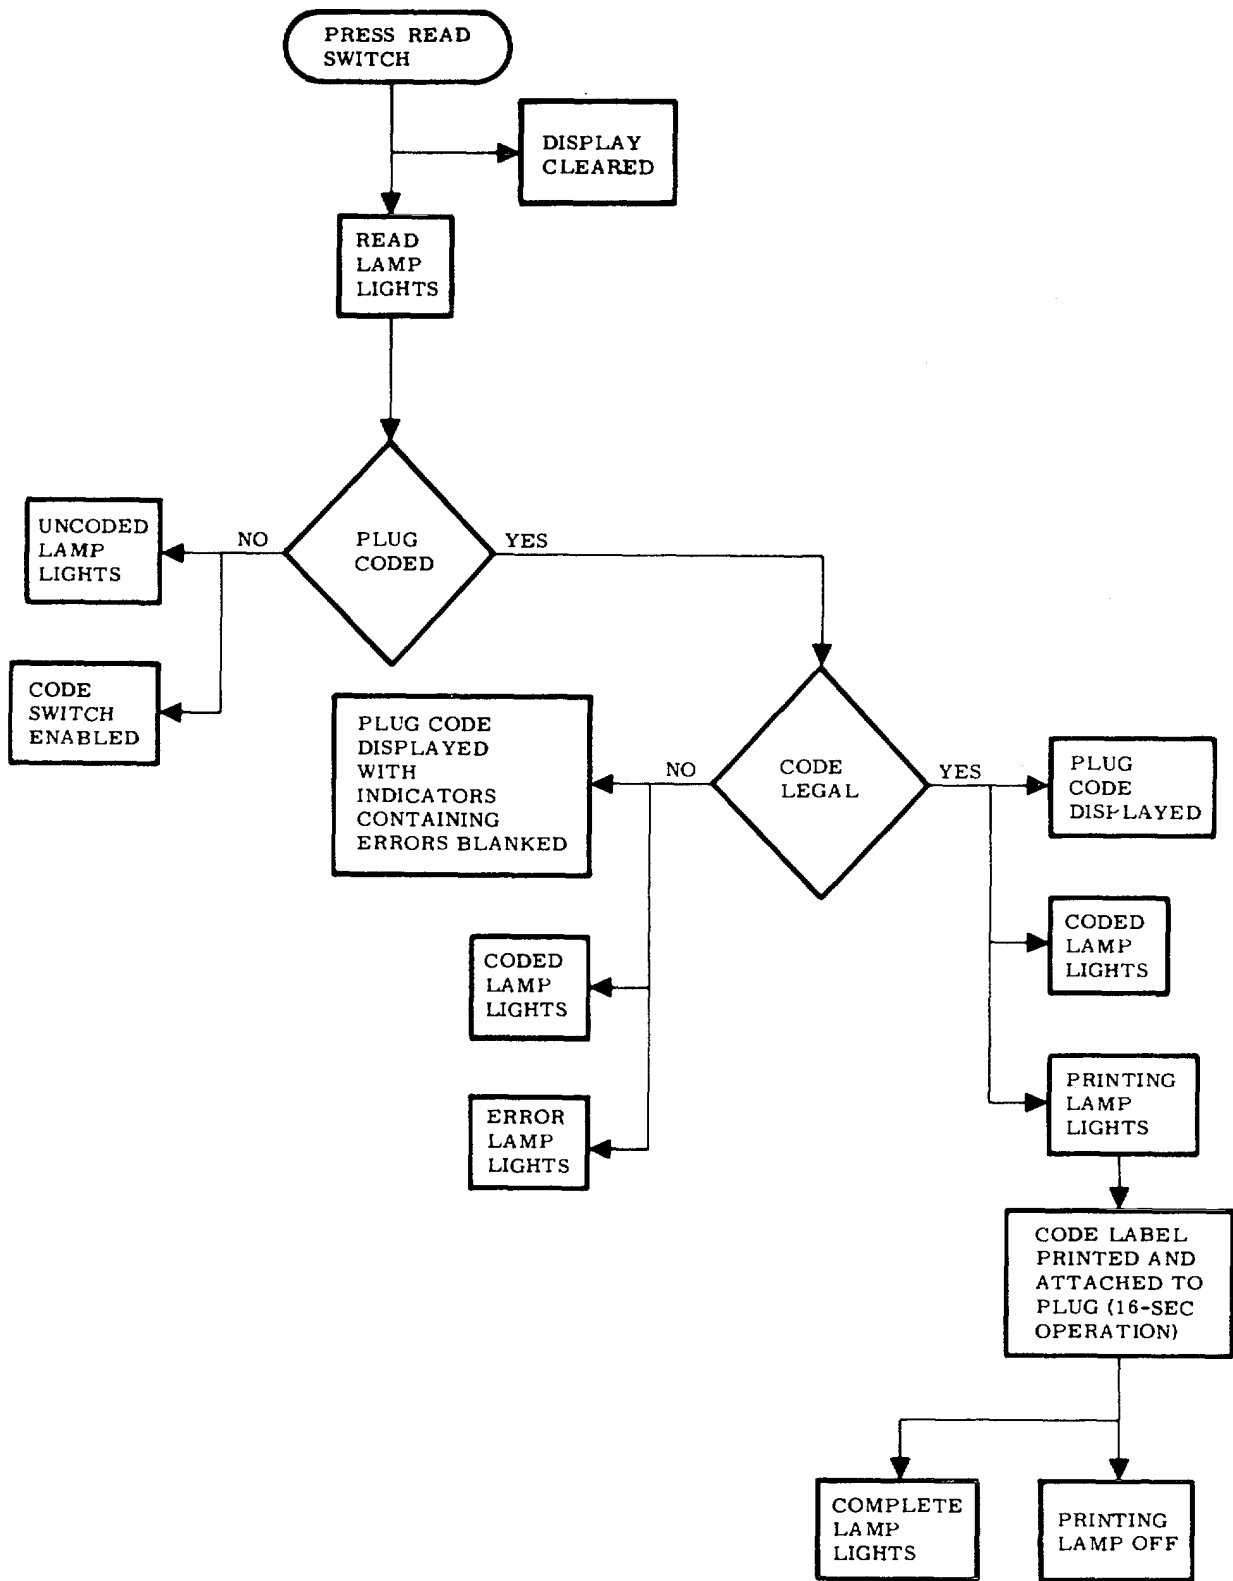

Figure 1-2. PT1561 Programmer Read Operation, Flow Chart
**1-20.** Figure 1-2 is a flow chart for the reading operation of the PT1561 Programmer. Refer to Figure 1-2 while reading the text describing this operation.